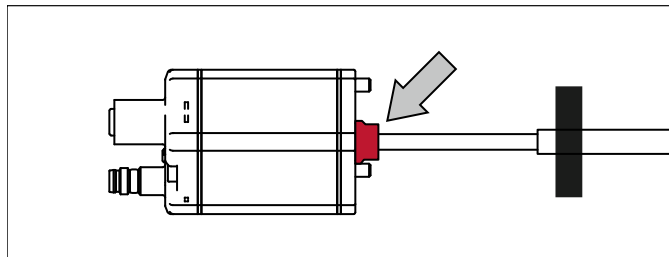

Fig. 32: Remove sealing before inserting into sensor rod HD/HL/HP
- The base unit is mounted by means of three screws. It is the only part that needs to be replaced if servicing is required, i.e. the hydraulic circuit remains closed. Before inserting the base unit into the sensor rod HD/HL/HP, remove the red sealing at the transition between the sensor electronics housing and the flexible sensor rod (Fig. 32). For more information see chapter "4.10.1. Replacement of base unit on the RH5/RFV/RF5 model" on page 40.